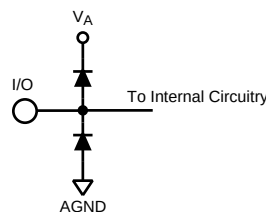

**Figure 2.**
- (1) The inputs are protected as shown below. Input voltage magnitudes above  $V_A$  or below GND will not damage this device, provided current is limited per Note 4. However, errors in the A/D conversion can occur if the input goes above 2.6V or below GND as described in the Operating Ratings section. See Figure 2.
- (2) With a full scale differential input of  $2V_{P-P}$ , the 12-bit LSB is  $488\text{ }\mu\text{V}$ .
- (3) Typical figures are at  $T_A = 25^\circ\text{C}$  and represent most likely parametric norms at the time of product characterization. The typical specifications are not ensured.
- (4) The input capacitance is the sum of the package/pin capacitance and the sample and hold circuit capacitance.
- (4) This parameter is specified in units of dBFS - indicating the value that would be attained with a full-scale input signal.
- (2) With a full scale differential input of  $2V_{P-P}$ , the 12-bit LSB is 488  $\mu\text{V}$ .